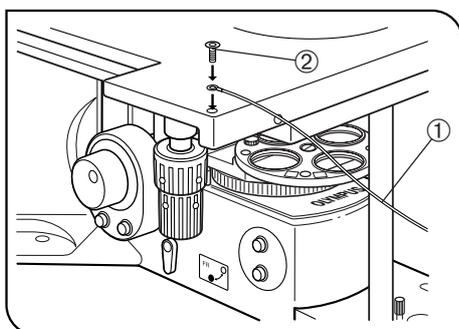

Fig. 13
3 Setting the Grounding (Fig. 13)
- Prepare a grounding wire ① and M4 screw ② and attach grounding as shown in Fig. 13.